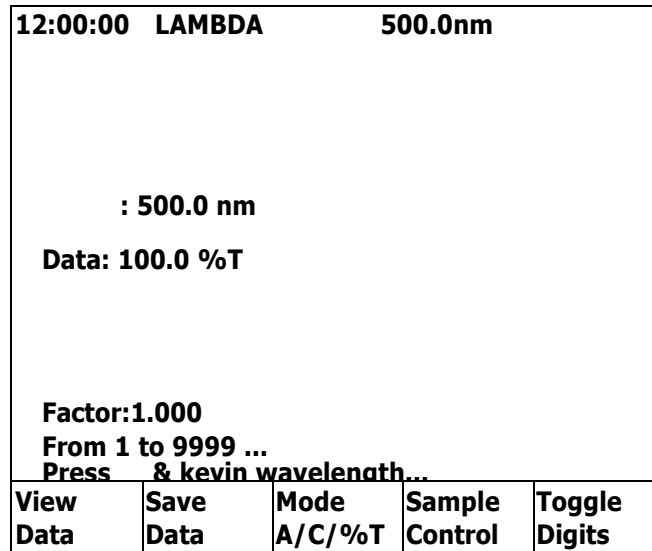

Figure 5.5 Reading in %T format
Step 3. After the measurement, press F3 Mode A/C/%T can switch reading into different formats: A as for Abs, C as for concentration, and %T as for transmittance. Value of factor will be asked for those choosing Mode in C (Figure 5.5).